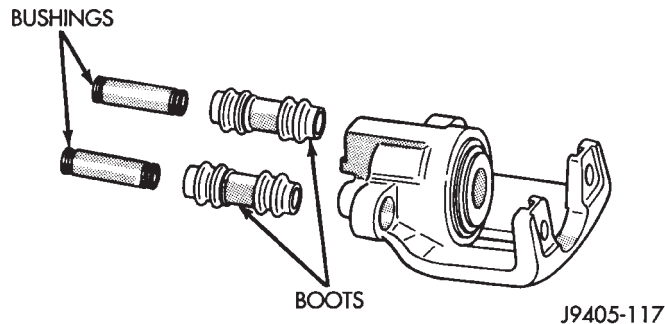

Fig. 74 Mounting Bolt Bushings And Boots
- (1) Remove caliper and brakeshoes.
(2) Remove mounting bolt boots and bushings from caliper (Fig. 74).